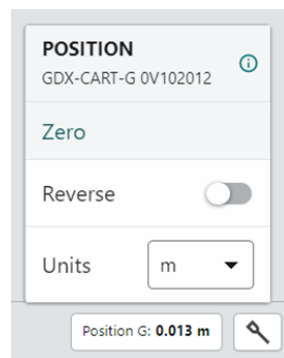

Figure 3
5. Make the cart position zero, clicking on *Zero* (Figure 3).